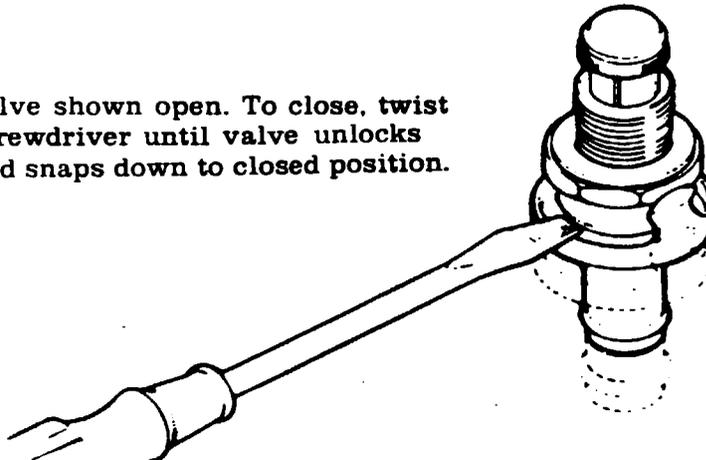

Figure 2-3. Quick-Drain Valve
- d. After engine oil has drained, close quick-drain valve as shown in figure 2-3 and remove hose. Install and safety drain plug and oil filter. Torque oil filter to 18-20 lb-ft.